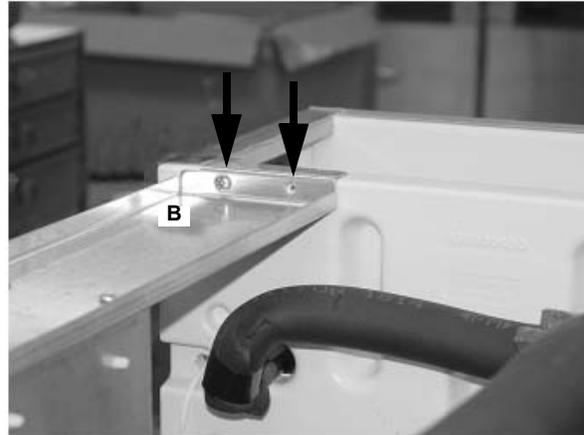

Figure 19.
12. Remove the 2 screws connecting the top support brace (B) to the evaporator bulkhead (Figure 19).